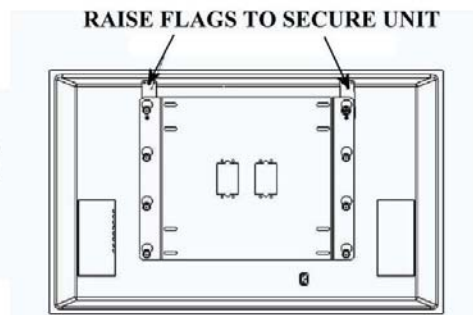

Figure 4
4. With the aid of another person, lift the plasma display up to the mount. Align the mounting buttons on the plasma with the teardrop slots on the mount and set the plasma into place (Figure 4).